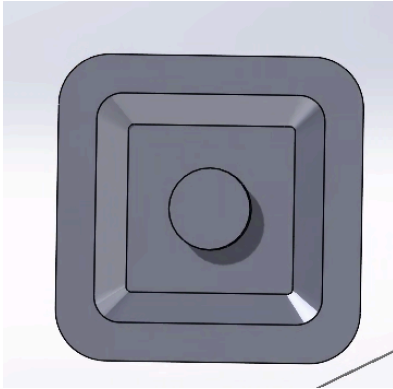

Figure 5
- Where to glue is up to discretion but recommended to glue the outer rims and the center circle to the rubber (Figure 5)